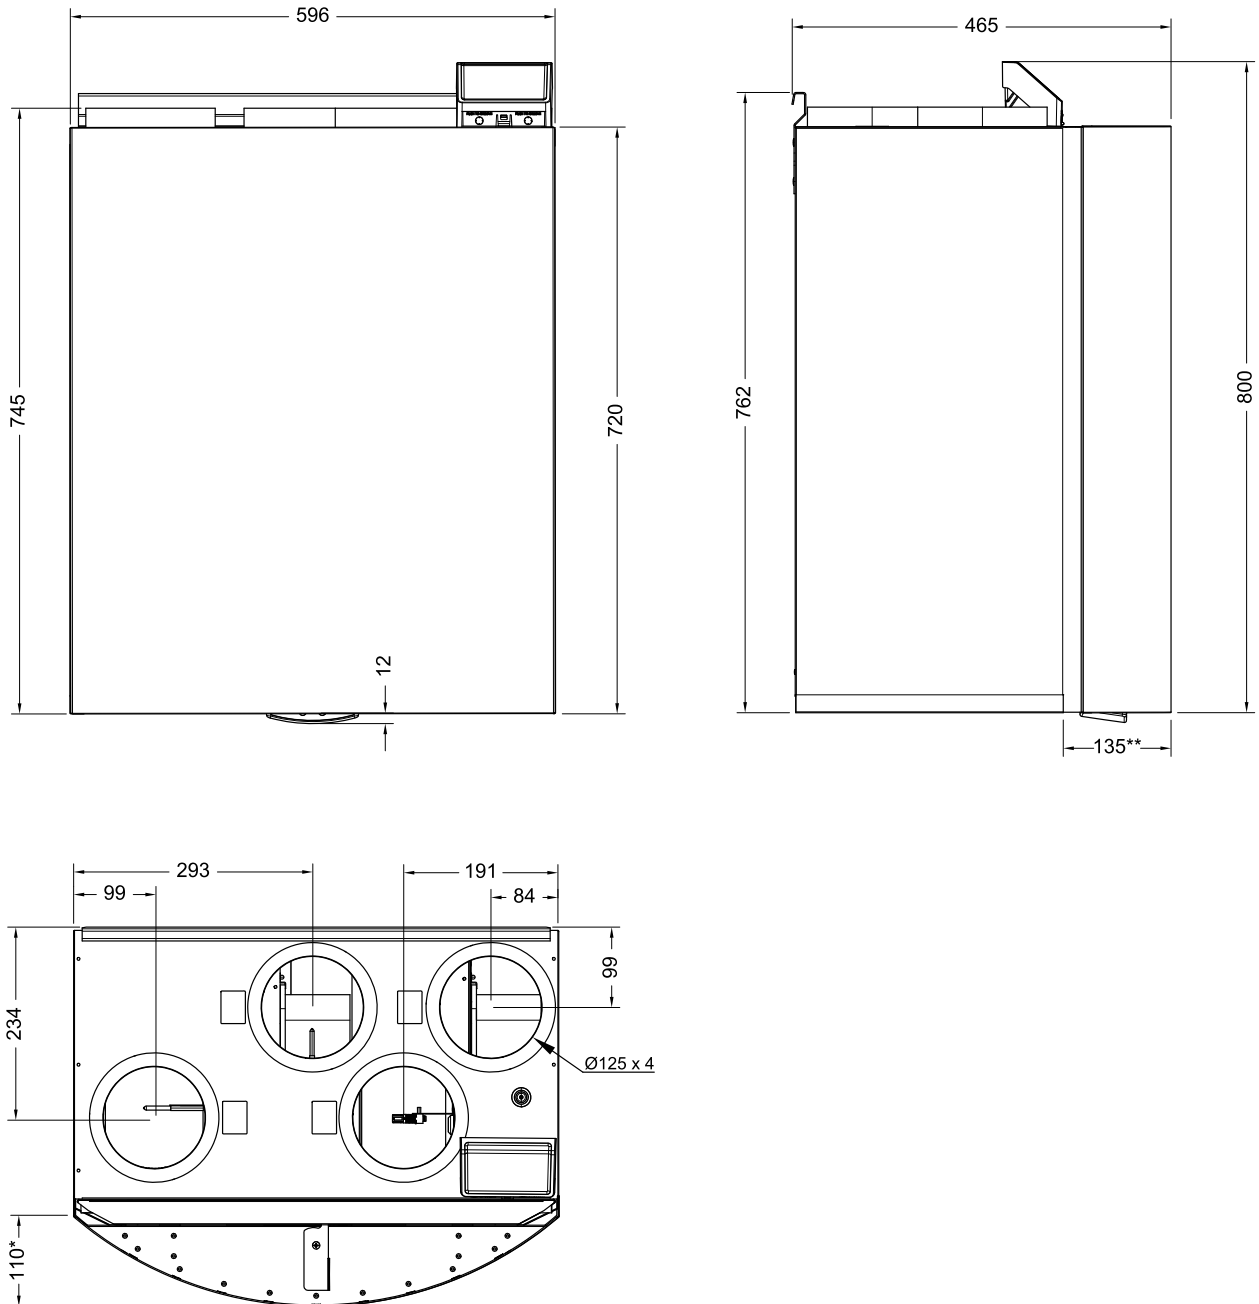

Fig. 1 Dimensions of left hand unit
There are two model options, right (R) and left (L) model (figure 1). The different models are recognized by the supply air outlet, which is situated on left side of the unit on an (L) unit and on the right hand side on an (R) unit. Both models come with 500 W or 1000 W installed re-heater battery.